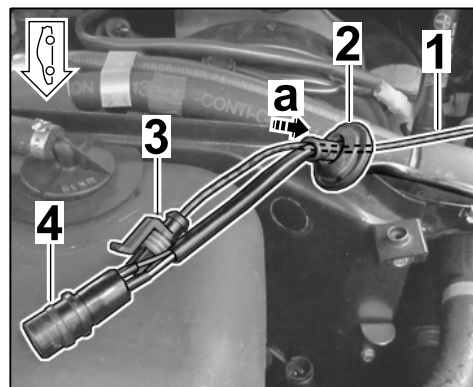

Figure 13
- 3.2.4 Guide power supply line ⇒ *Figure 13-1-* through the rubber sleeve ⇒ *Figure 13-2-* (⇒ *Figure 13-a-*) until the power supply line connector ⇒ *Figure 13-b-* is touching the airbag sensor wire harness connector ⇒ *Figure 13-4-*.